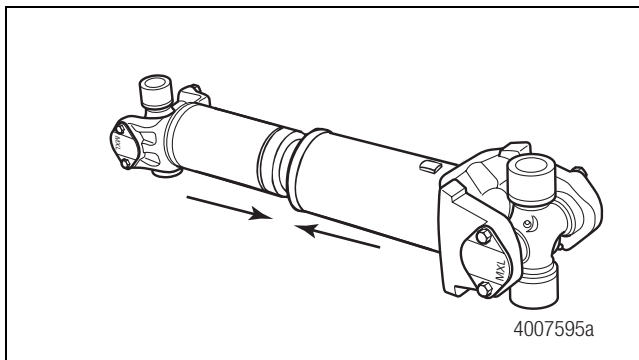

Figure 4.6
8. Push together the driveline sections. Figure 4.6.